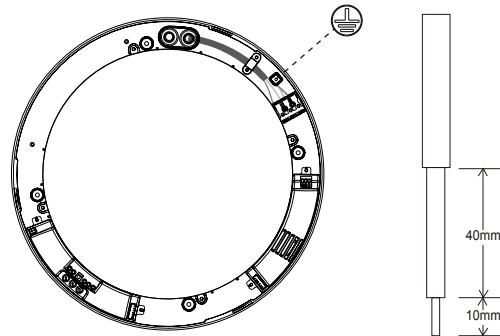

Fig.10
- Step6 Put the power line through the line hole to connect on the wiring (as Fig.10)